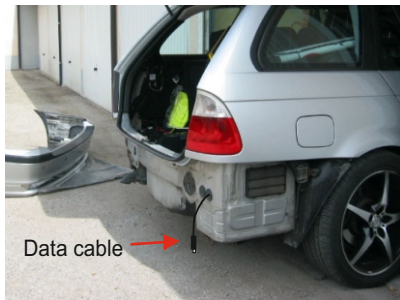

Fig. 2
b) Through the individuated passage route the data cable inside the trunk leaving the fast-on terminal outside. (Fig. 2)